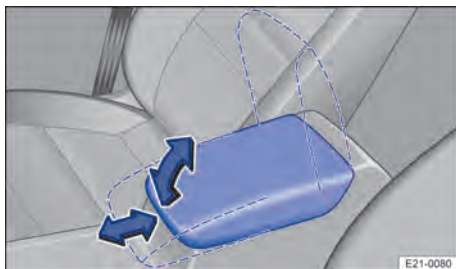

Fig. 74 Between the front seats: centre armrest.
1. *Lift*: pull the centre armrest gradually upwards in the direction of the arrow → Fig. 74.
3. *Adjust in longitudinal direction*: slide the centre armrest forwards or backwards → Fig. 74.